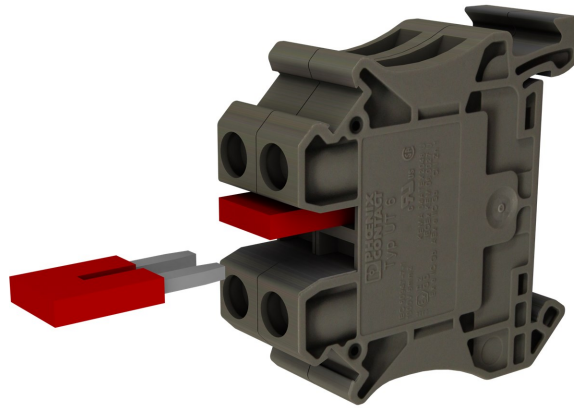
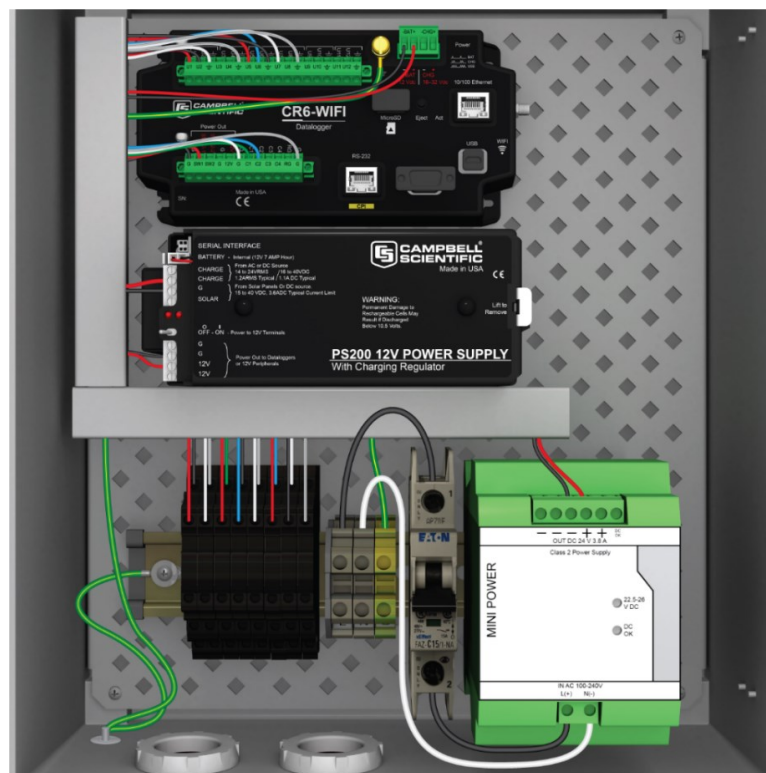

FIGURE B-8. Attaching wire jumpers
FIGURE B-9. Wiring the DIN-rail components to other equipment in the enclosure
- Attach wire jumpers between the DIN-rail components and other equipment inside the enclosure. If it is necessary to use jumpers to join two components, press each jumper firmly into the receptacles on each component (FIGURE B-8 (p. 37)). To keep the enclosure organized, wiring ducts with covers are available to keep the loose wires gathered together (FIGURE B-9 (p. 37)).